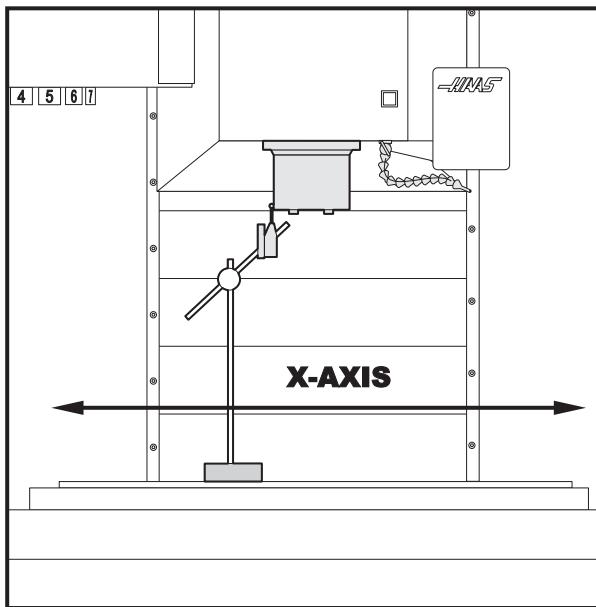

Figure 1-1. Dial indicator in position to check X-axis.
- Set up a dial indicator and base on the mill table as shown in Fig. 1-1.